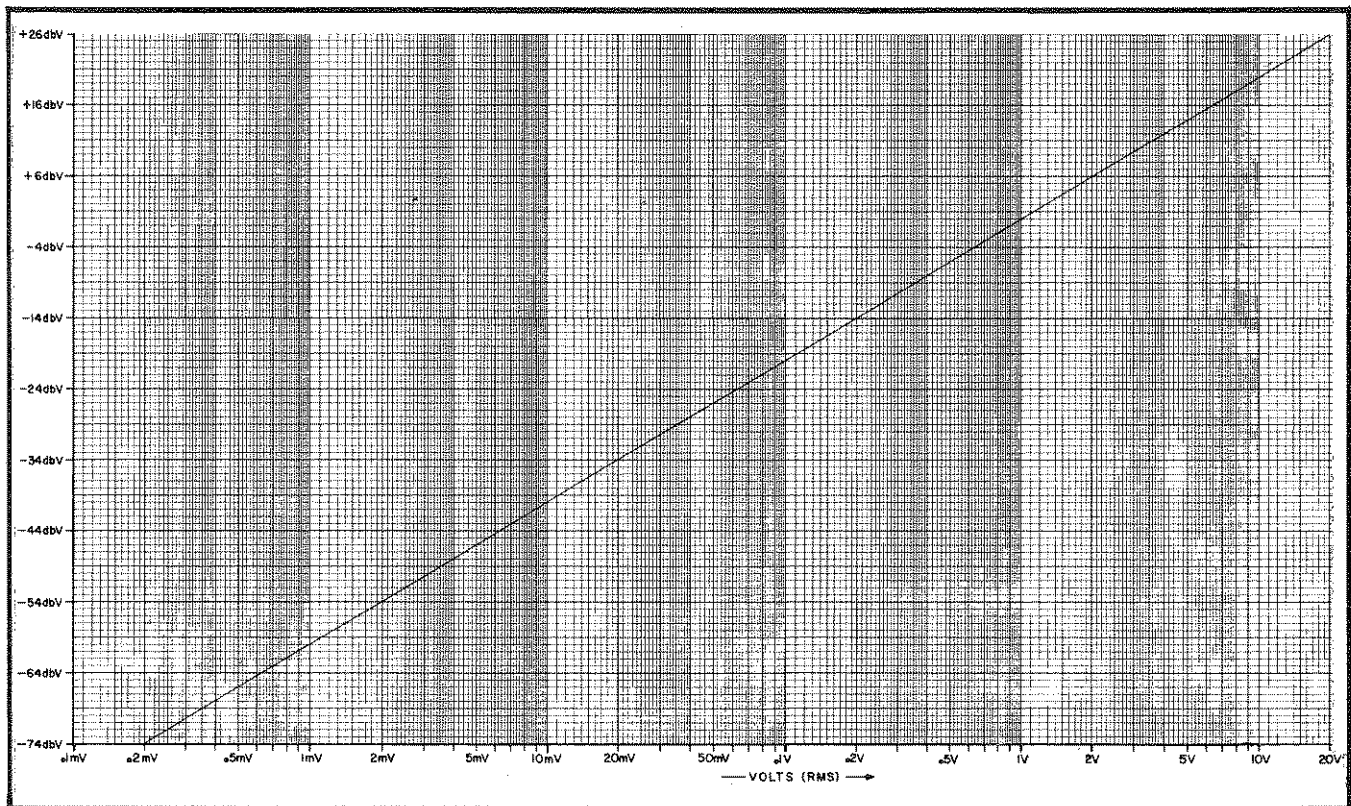

Figure 3-6. dBV to Volts Conversion.
3-44. Log A and Log B Measurements. The single channel amplitude functions, A or B, permit direct measurement of either input level in dBV. These readings can be converted to ac volts using the graph shown in Figure 3-6. To measure the level applied to either input channel, proceed as follows:
- g. If desired, convert the dBV reading to rms volts using the graph shown in Figure 3-6.